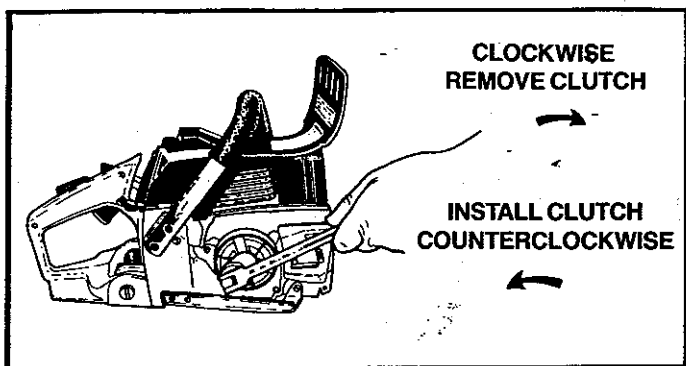

Figure 48
5. Remove the clutch with a 3/4" socket or end wrench in a *clockwise* direction. Figure 48.
7. Install clutch in a *counterclockwise* direction. Figure 48.